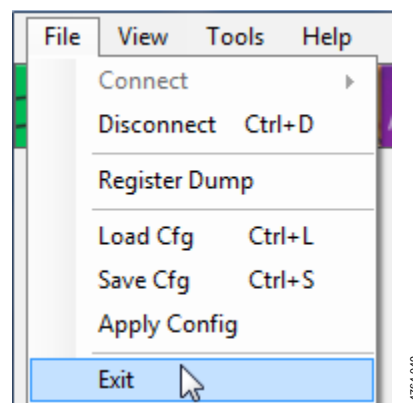

Figure 52. Exiting the Application
2. Exit the application via **File > Exit**, shown in Figure 52.